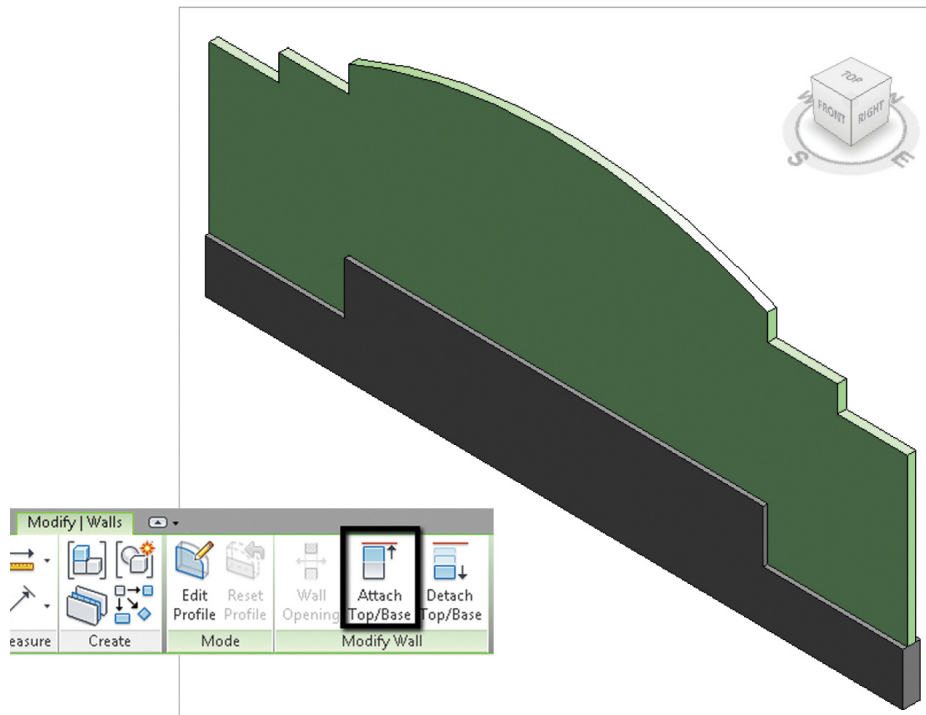

FIGURE 2.16 Attach Top/Base setting
4. Open the default 3D view to complete this step. Select the thicker wall, click Attach Top/Base, and confirm the Options Bar setting is correct for Top or Base (Figure 2.16). Now select the wall with the profile that you just edited. (Note that this may be a little tricky because the thinner, edited wall is likely completely inside the thicker wall.) This attaches the top of the thicker wall to the underside of the upper wall, as shown on the right side of the figure.